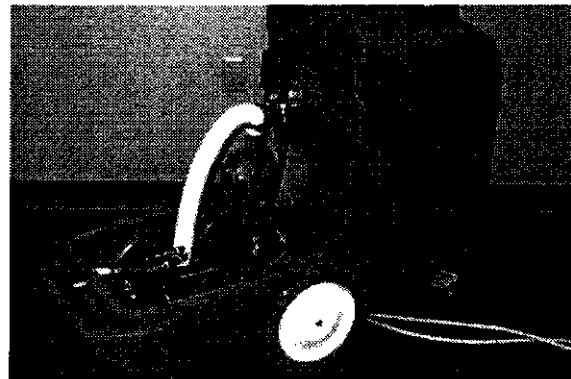

FIG. 12
- c. Lift tank upward, away from chassis (Figure 12).